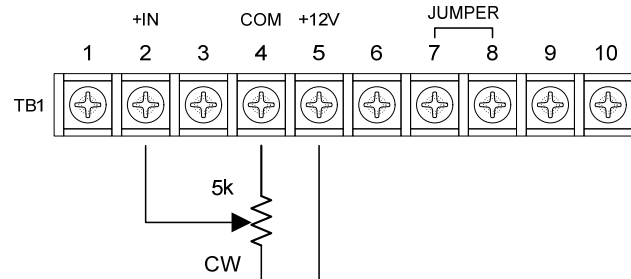

Figure 4.3 Remote Control with a Potentiometer
- a. With the power to the PF1 turned off, connect the potentiometer as shown in Figure 4.3. The CW position is the full power output position. Terminal TB1-5 is internally connected to a positive dc voltage source.